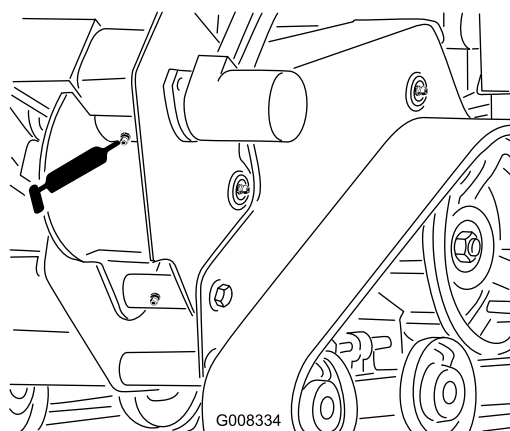

Figure 25
3. Clean the trencher housing grease fitting with a rag and connect a grease gun to it (Figure 25).